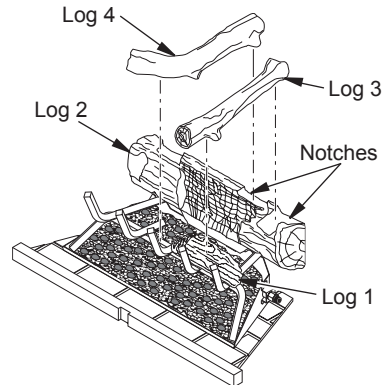
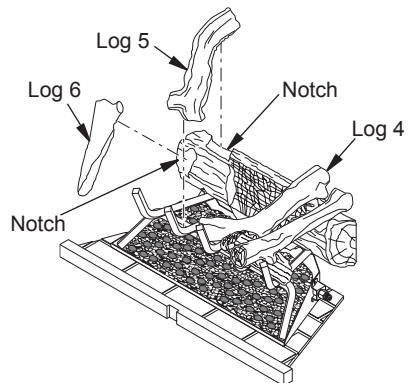
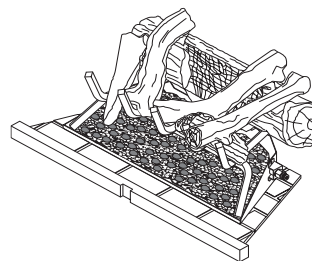

Figure 26 - Installing Logs 3 and 4
Figure 27 - Installing Logs 5 and 6
Figure 28 - Logs Installed for M36, M36P, VM36 and VM36P Models
3. Place log 3 into notch on log 2, resting the front end on top of log 1 (see Figure 26).
4. Place the upper end of log 4 into the notch on log 2 as shown in Figure 26. Rest the lower end of log 4 onto the middle grate finger as shown in Figure 27.
5. Place the upper end of log 5 into notch on the left of log 2 (see Figure 27). Rest the lower end of log 5 on the grate as shown in Figure 28.
6. Insert the lower end of log 6 between the first two grate fingers as shown in Figure 28 and position the upper end of log 6 into the notched area on the front of log 2 as shown in Figure 28.